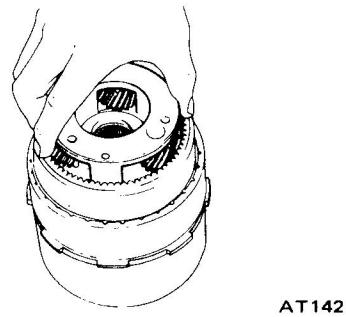

Fig. AT-72 Installing planetary carrier
7. Install rear clutch hub and front planetary carrier in the manner as shown in Figure AT-72.